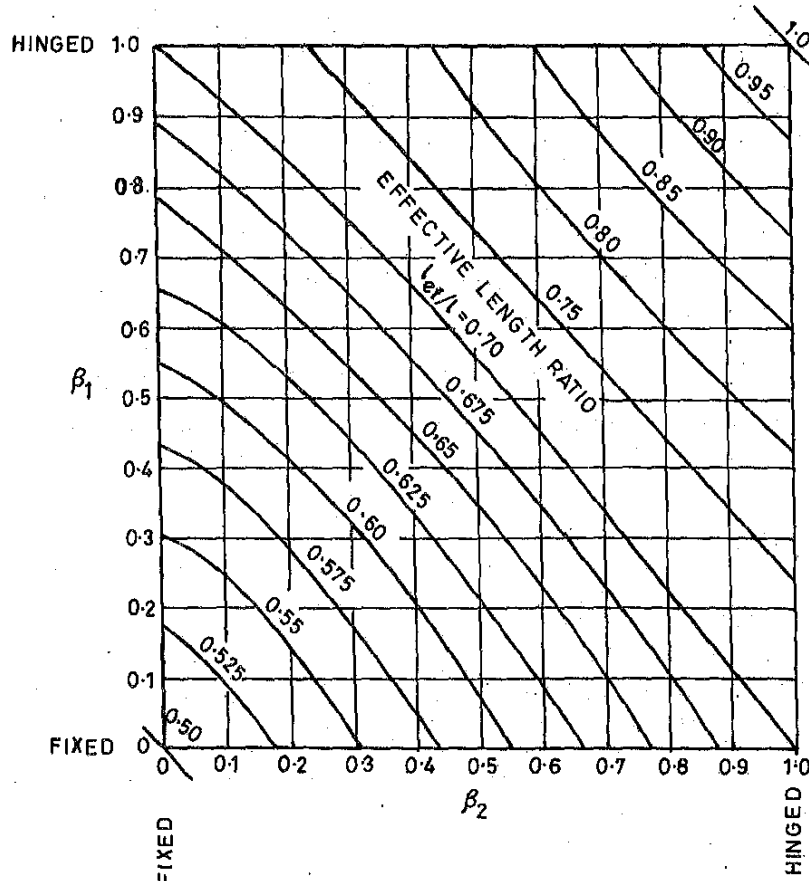

FIG. 26 EFFECTIVE LENGTH RATIOS FOR A COLUMN IN A FRAME WITH NO SWAY
E-1 In the absence of more exact analysis, the effective length of columns in framed structures may be obtained from the ratio of effective length to unsupported length l_{ef}/l given in Fig. 26 when relative displacement of the ends of the column is prevented and in Fig. 26 when relative lateral displacement of the ends is not prevented. In the latter case, it is recommended that the effective length ratio l_{ef}/l may not be taken to be less than 1.2.
- Figures 26 and 27 are reproduced from 'The Structural Engineer' No. 7, Volume 52, July 1974 by the permission of the Council of the Institution of Structural Engineers, U.K.
- In Figs. 26 and 27, β_1 and β_2 are equal to $\frac{\sum K_c}{\sum K_c + \sum K_b}$